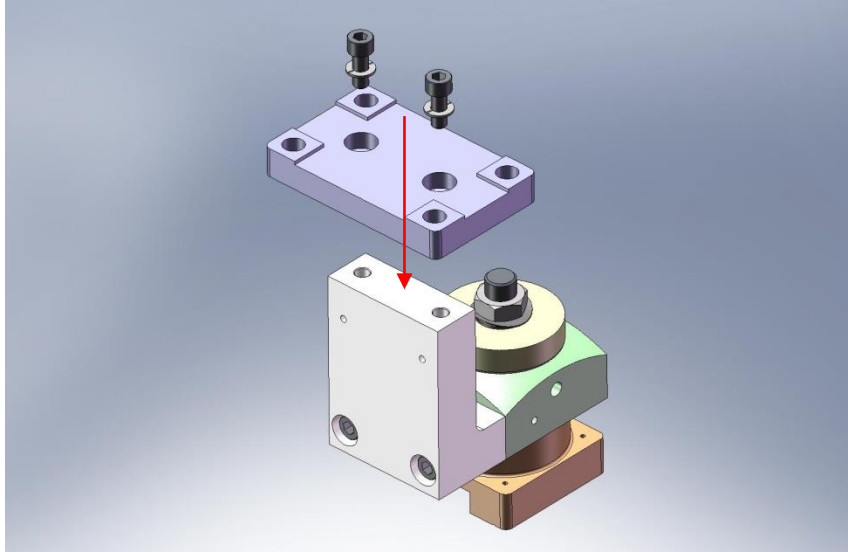

Figure 4.43. Add Base Plate, to complete Vertical Position Sensor Assembly (accept for sensor).
- Mount **Sensor Head Base Plate** to **Vertical Sensor Head Bracket**, as shown in Figure 4.43. Add screws and torque to final spec.